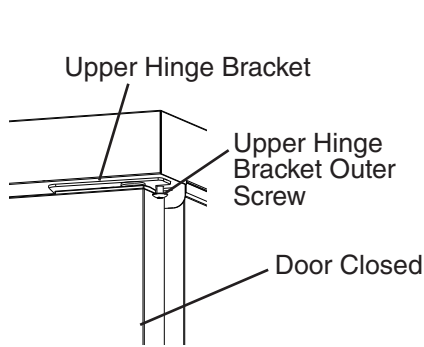
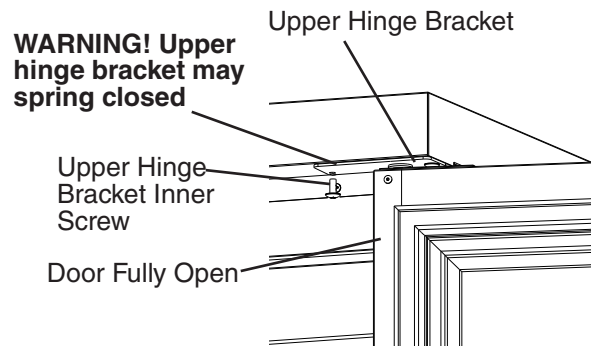

**Fig. 30**
**Fig. 31**
- 9) With the door closed, loosen, but do not remove, the upper hinge bracket outer screw. See Fig. 30. Next, open the door to the fully open position and remove the upper hinge bracket inner screw. See Fig. 31.